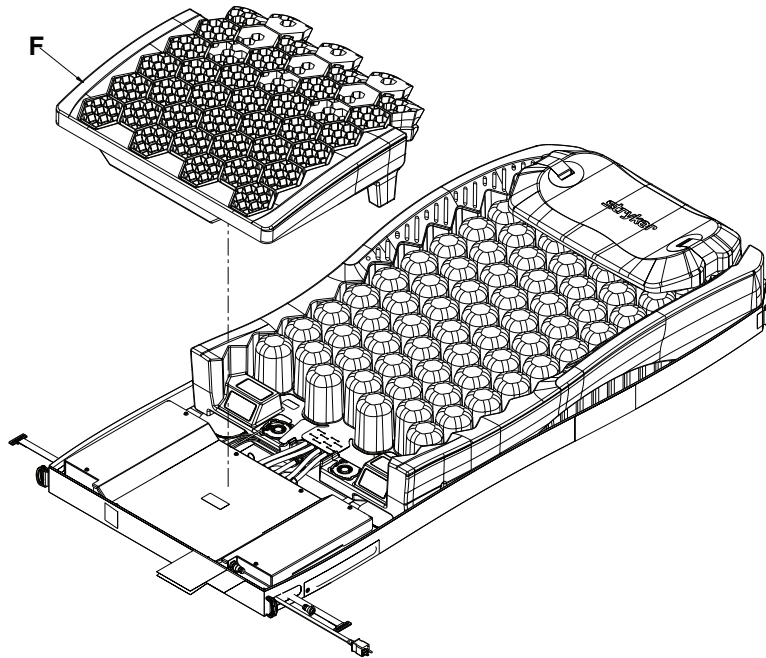

Figure 19 – Gel crib
11. Remove the foot section gel crib (F) and lift up (Figure 19). Save gel crib.